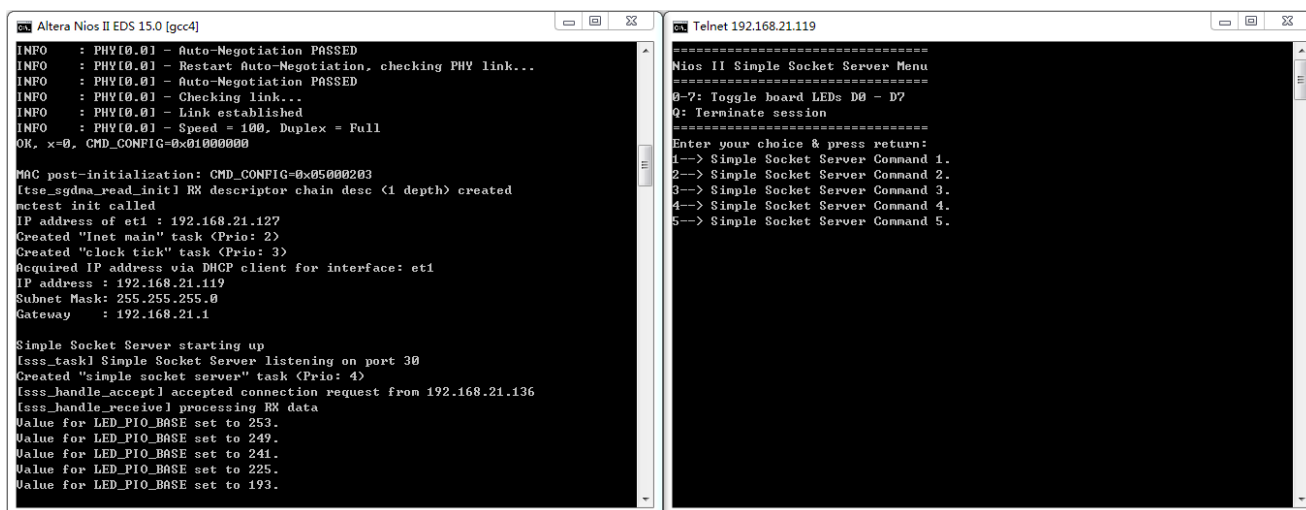

Figure 7-18 Display Progress and Result Information for the Socket Server Demonstration
- From the Simple Socket Server Menu, enter the commands in the telnet session. Entering a number from zero through seven, followed by a return, causes the corresponding LEDs (D0-D7) to toggle on or off on the DECA board as shown below in **Figure 7-18**.